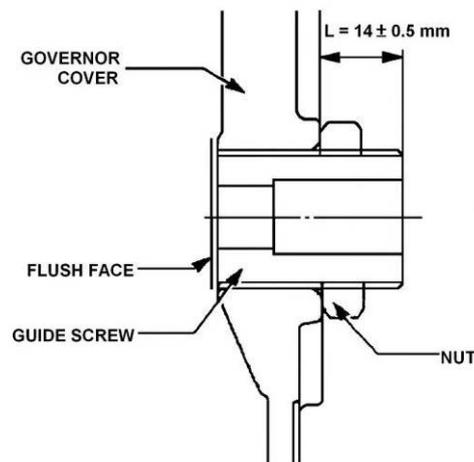

Figure 124 Adjustment of the Governor Shaft Guide Screw - Sectional View
- n. Adjust the governor shaft guide screw so that it protrudes 13.5 to 14.5 mm from the governor cover (Figure 124). Torque the locknut to 39 to 49 N.m (29 to 36 lbf.ft).